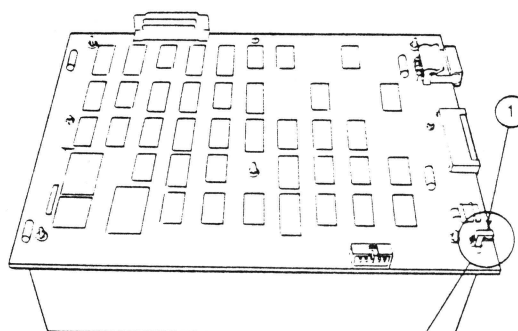

FIGURE 8
5. Firmly push a few inches of the cable out through the slot in the cover (behind the "Ready" label) as shown in Figure 8. You will have to remove the "Ready" label around the LED opening on the cover to free the LED.
6. Around the red LED is a small black plastic mount. Remove the mount (Figure 8, #1) by pushing out its side flaps and sliding it off the LED.
8. Take the LED from the Service Spares Kit and thread it through the front opening in the cover. Place the small black plastic mount on the LED (see Figure 8, #1), then pull the cable back through the opening until the LED fits in its slot. Replace the "ready" label with the new label found in the spares kit..